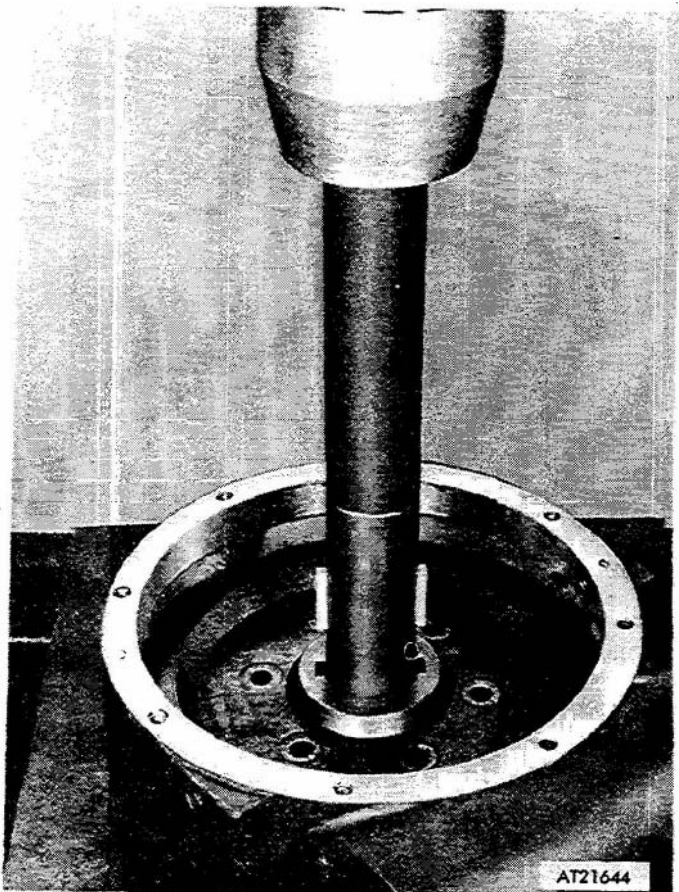

Figure 4-20. Pressing drum shaft into hub.
(15) Turn over gear housing (9). Insert keys (16) in drum shaft (2) and press shaft into worm gear until keys are in proper position (fig 4-20 I).